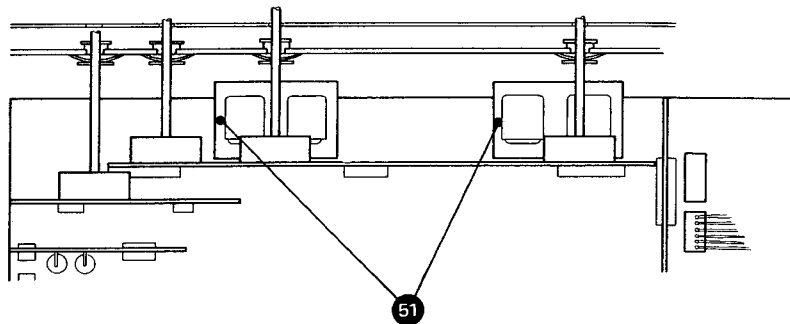

Fig. 3.22.-4
- Remove screw (50) (fig. 3.22. - 3) from the interconnection board.